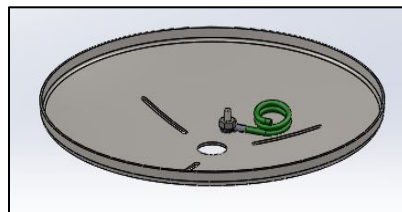

FIG. 6 CANOPY
- b. CANOPY. (as shown in FIG. 6)